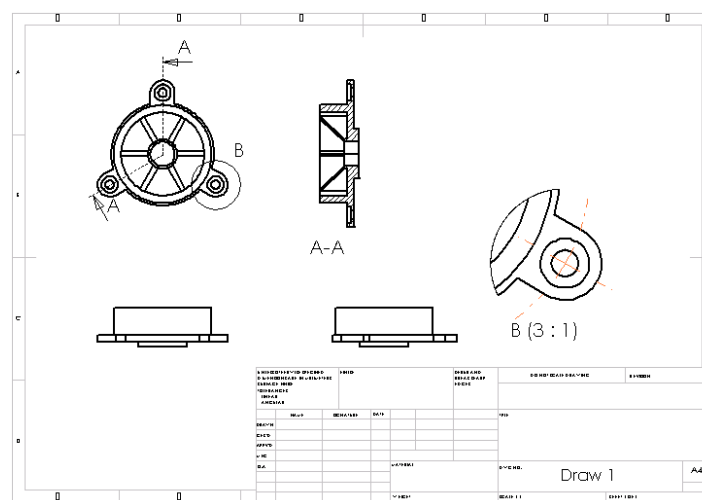

Figure 12-55 The detail view derived from the top view
3. Create a small circle on the right circular feature of the model in the top view, refer to Figure 12-55.
Figure 12-55 shows the detail view derived from the top view.